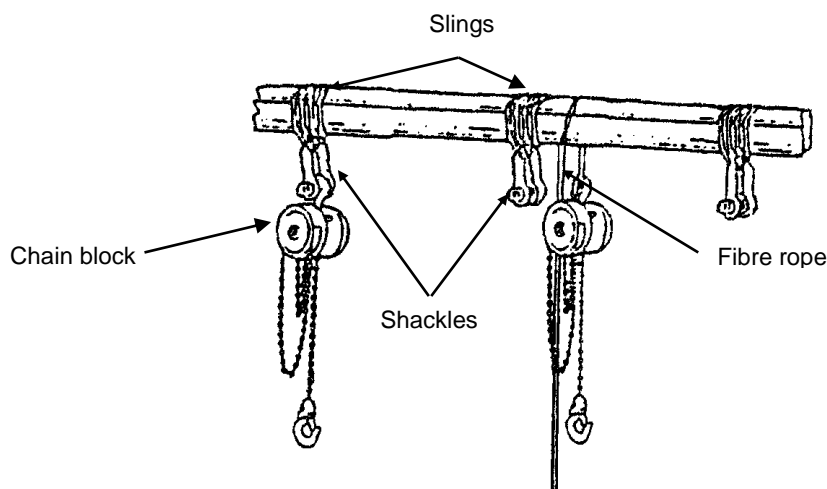

FIG 36.
- E. Haul the lifting equipment up to the beam with a fibre rope and hook the chain blocks onto the shackles. (Fig 36)